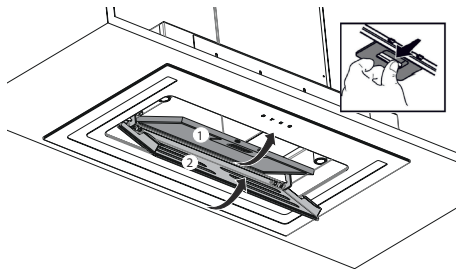

Fig. 8: Placing the metal oil filters
11. ➤ Place the metal oil filter in the product and open the filter lock (Fig. 8/1)
12. ➤ Install the metal oil filter (Fig. 8/1)
13. ➤ Close the side aspirator (Fig. 8/2).